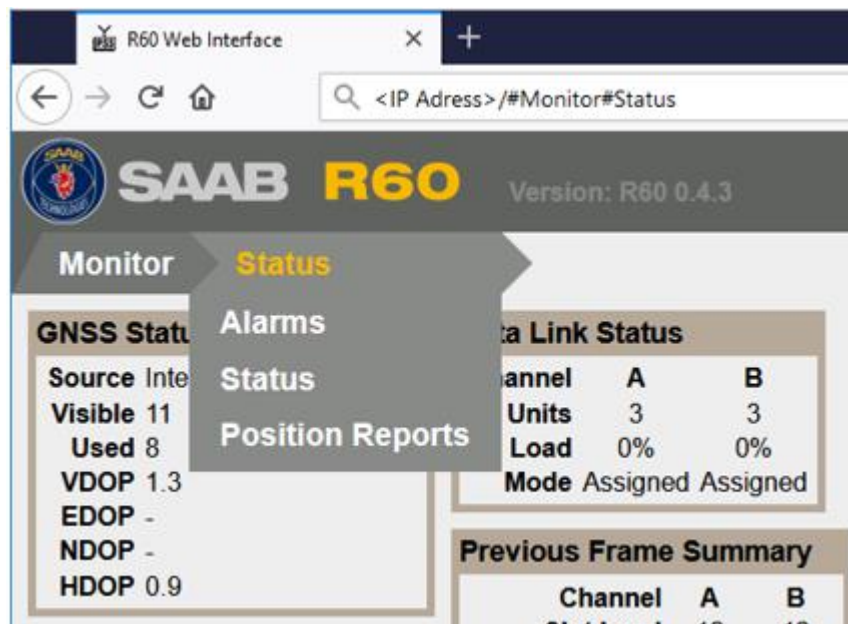
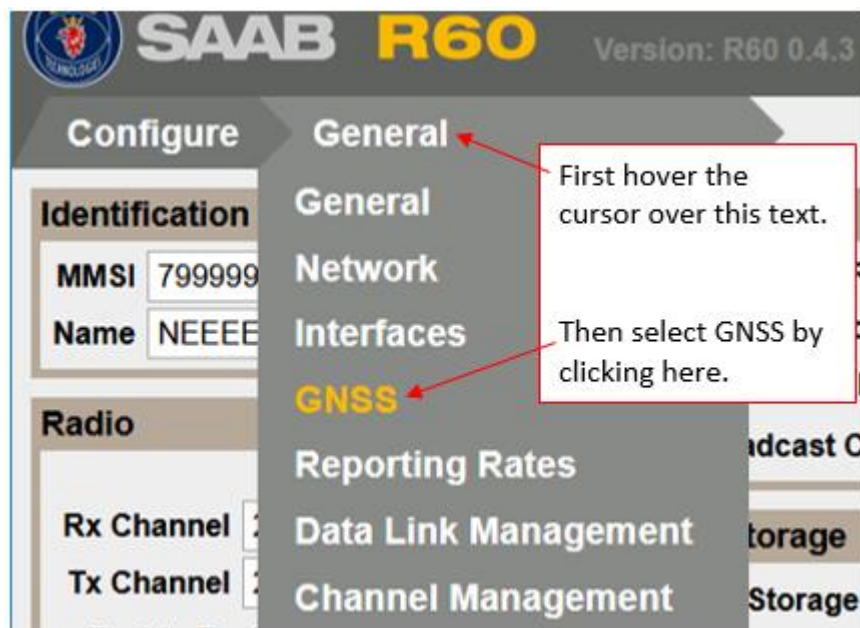

Figure 3-5: Shortcuts to top level of the present sub-category, or directly to other sub-categories
Figure 3-9: Changing from the *General* sub category directly to the *GNSS* sub category
If your browser can access the R60 unit, and if you have used the correct IP address, the web GUI start page will now appear. The start page displays the four main categories as shown in Figure 3-5.
By moving the cursor over the sub-category text, shortcuts to other sub-categories (within in the same main category) appear, if available. Shortcuts can be clicked on to navigate directly to that other main category page. See example in Figure 3-5 below and Figure 3-9 on page 31.
8. Leave the *General* category and move to the *GNSS* settings category. Since the *General* and *GNSS* sub categories are in the same main category group (*Configure*), the fastest way to do this is to move the cursor to hover over (or click on) the *General* text in the navigation line, and in the menu that appears click on the *GNSS* sub-category (see Figure 3-9).